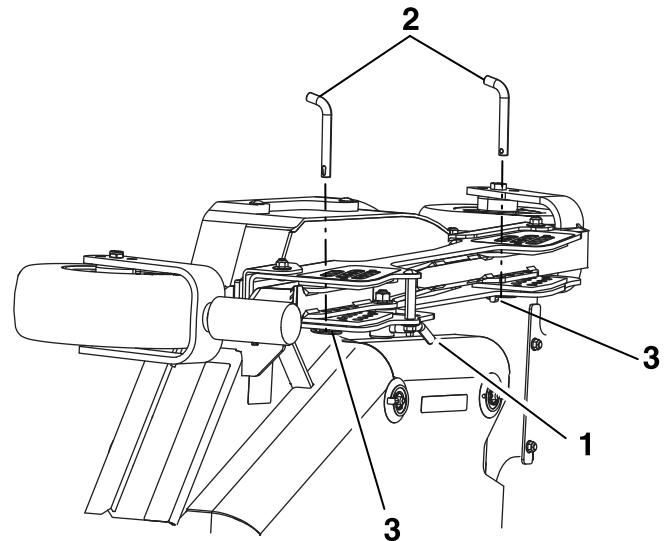

Figure 25
- B. Unlock the cam locks located on the height of cut channel on the wing deck (see Figure 25).
- D. Move the wing deck to the appropriate height and reinstall the height of cut pins and lynch pins as shown in Figure 25.